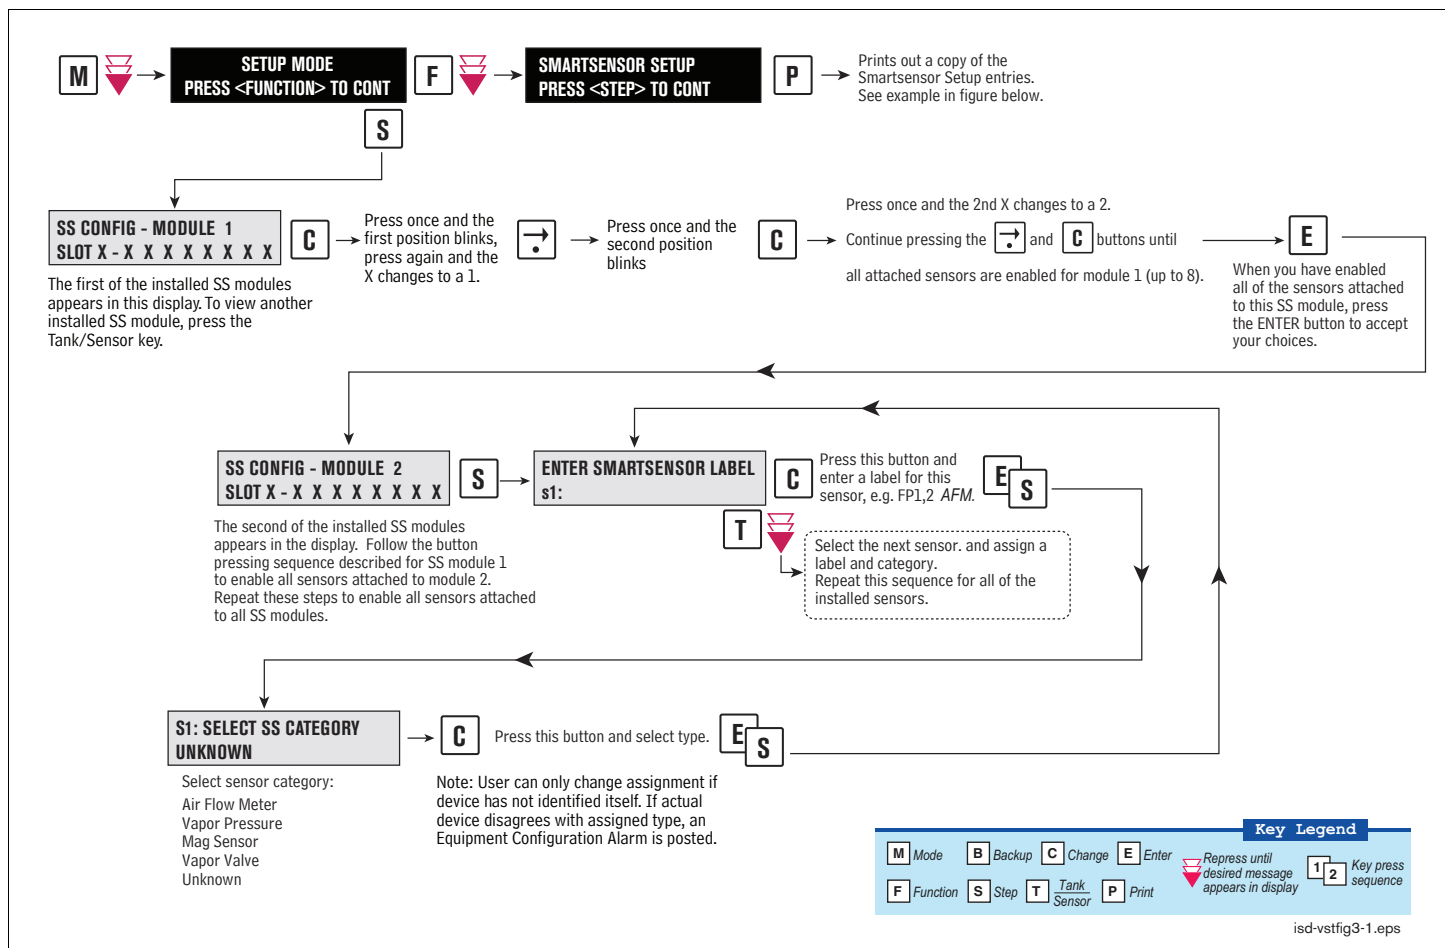

Figure 7. Smart Sensor Setup
- Smart Sensor Setup - All ISD site (Figure 7)
The I/O Combination Module is installed in the Power bay of the TLS console. Figure 7 diagrams the External Input setup procedure required with the Hirt VCS 100 processor.
The Smart Sensor Interface Module is installed in the Intrinsically-Safe bay of the TLS console. This module monitors Air Flow Meters, ATM, Vapor Valve and the Vapor Pressure Sensor. Figure 7 diagrams the Smart Sensor setup procedure. Figure 8 shows a printout of the Smart Sensor setup.